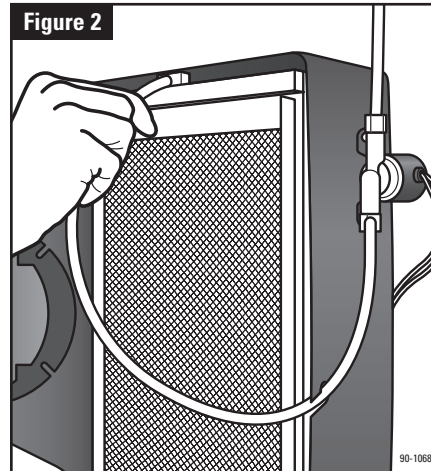

Figure 2
6. Insert Water Panel Evaporator assembly into base. Make sure bottom of scale control insert (6) is seated in water level sensor assembly (9). Snap top of evaporator assembly into base. Insert feed tube into distribution tray. See **Figure 2**. Make sure float cover (14) is snapped into place and that floats (13) move freely up and down. Rotate nameplate (11) if necessary, so it is right side up. Place point bypass damper handle (8) to "WINTER" (open) for heating season and "SUMMER" for cooling season.